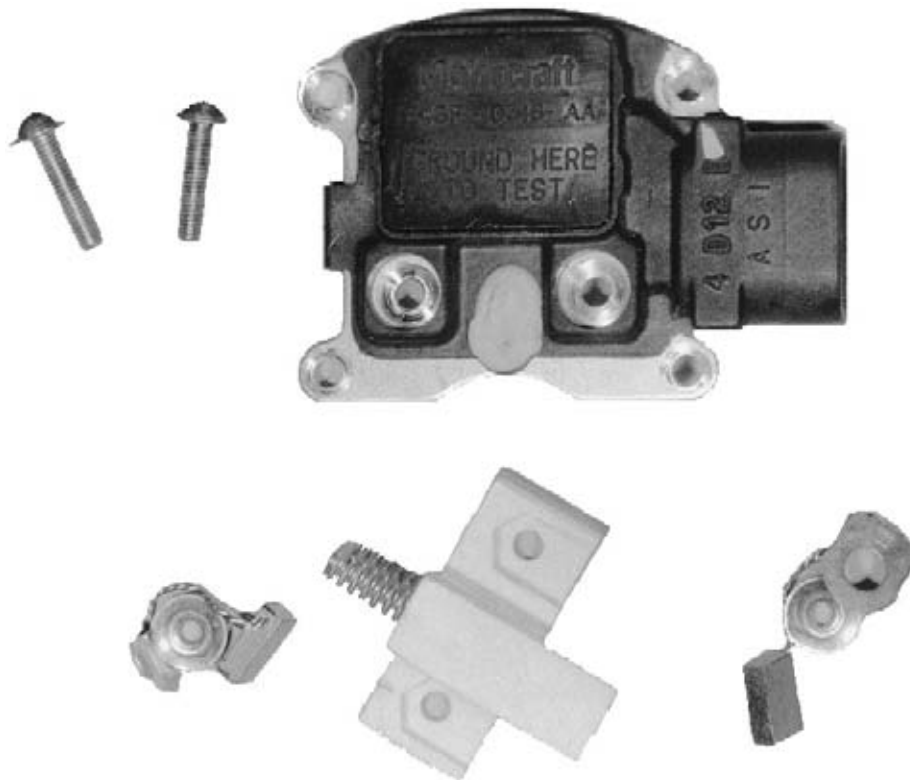

Figure 8-41. An example of the latest integrated circuit regulator design, a Ford IAR regulator and brush holder.
Solid-state regulators completely replaced the older electromagnetic design on late-model vehicles. They are compact, have no moving parts, and are not seriously affected by temperature changes. The early solid-state designs combine transistors with the electromagnetic field relay. The latest and most compact is the integrated circuit (IC) regulator (Figure 8-41). This combines all control circuitry and components on a single